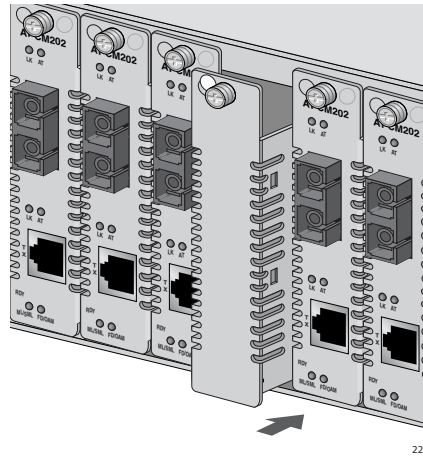

Figure 37. Inserting an AT-CV5PNL1 Blank Slot Cover
- Slide the blank slot cover into the slot, as shown in Figure 37, until the slot cover is flush with the front of the chassis.